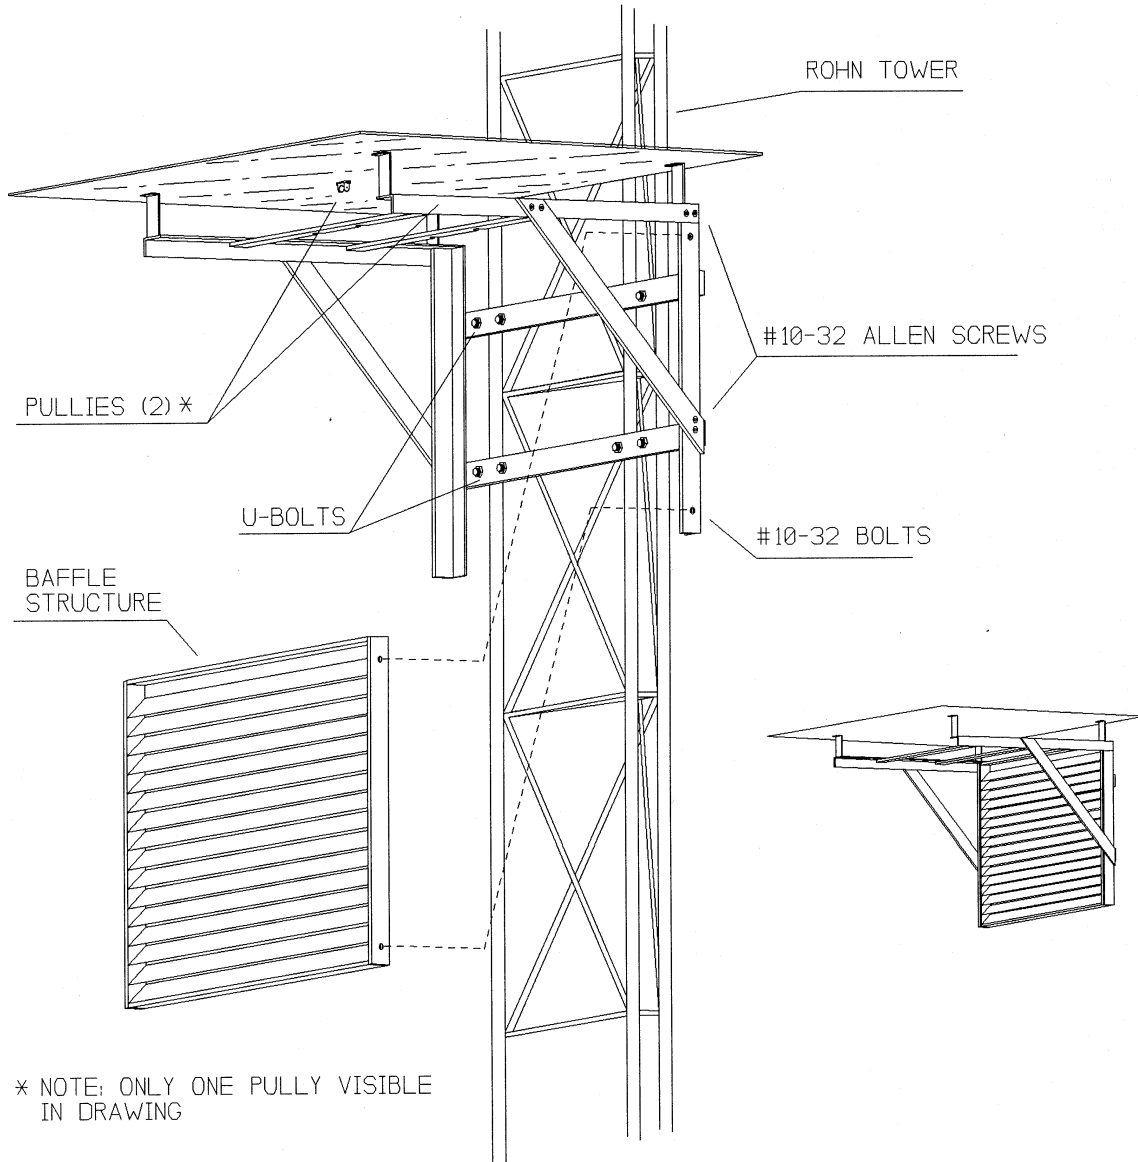
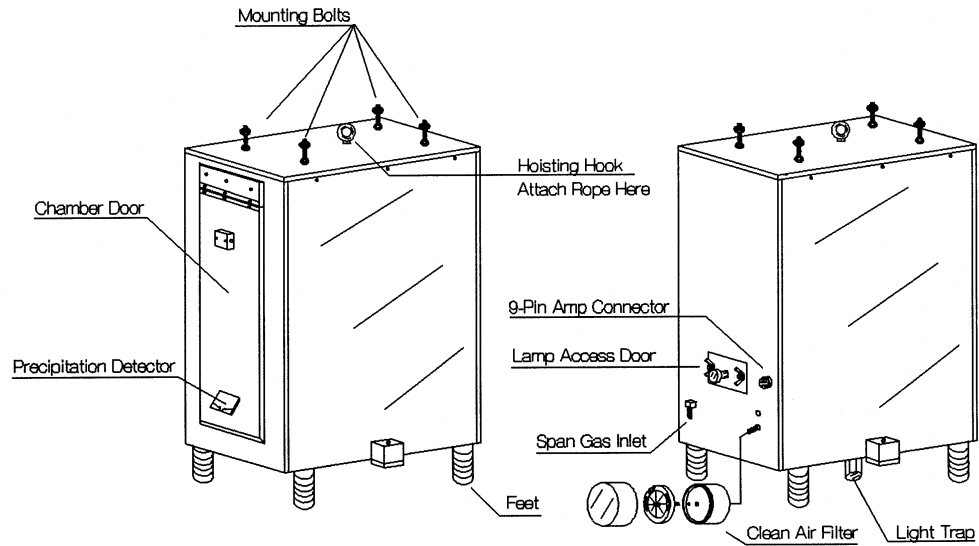

Figure 4-2. Solar Radiation and Precipitation Shield Assembly.
Figure 4-4. Nephelometer Exterior Diagram.
The shield must be assembled before installation on the tower as described below and illustrated in Figure 4-2, Solar Radiation and Precipitation Shield Assembly.
Feed the hoist rope through the two (2) pulleys on the underside of the precipitation and solar radiation shield (see Figures 4-2 and 4-3). Attach the nephelometer hoist rope attachment ring to the circular ring on top of the nephelometer (see Figure 4-4, Nephelometer Exterior Diagram).